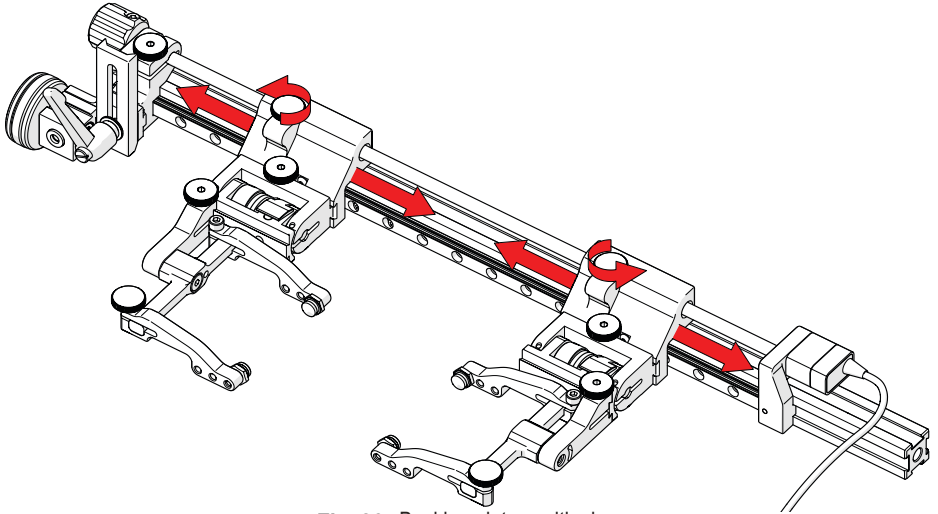

Fig. 26 - Backing plate positioning
2. The knob on the carriage allows for adjustment of the probe holders on the leadscrew (Fig. 26).